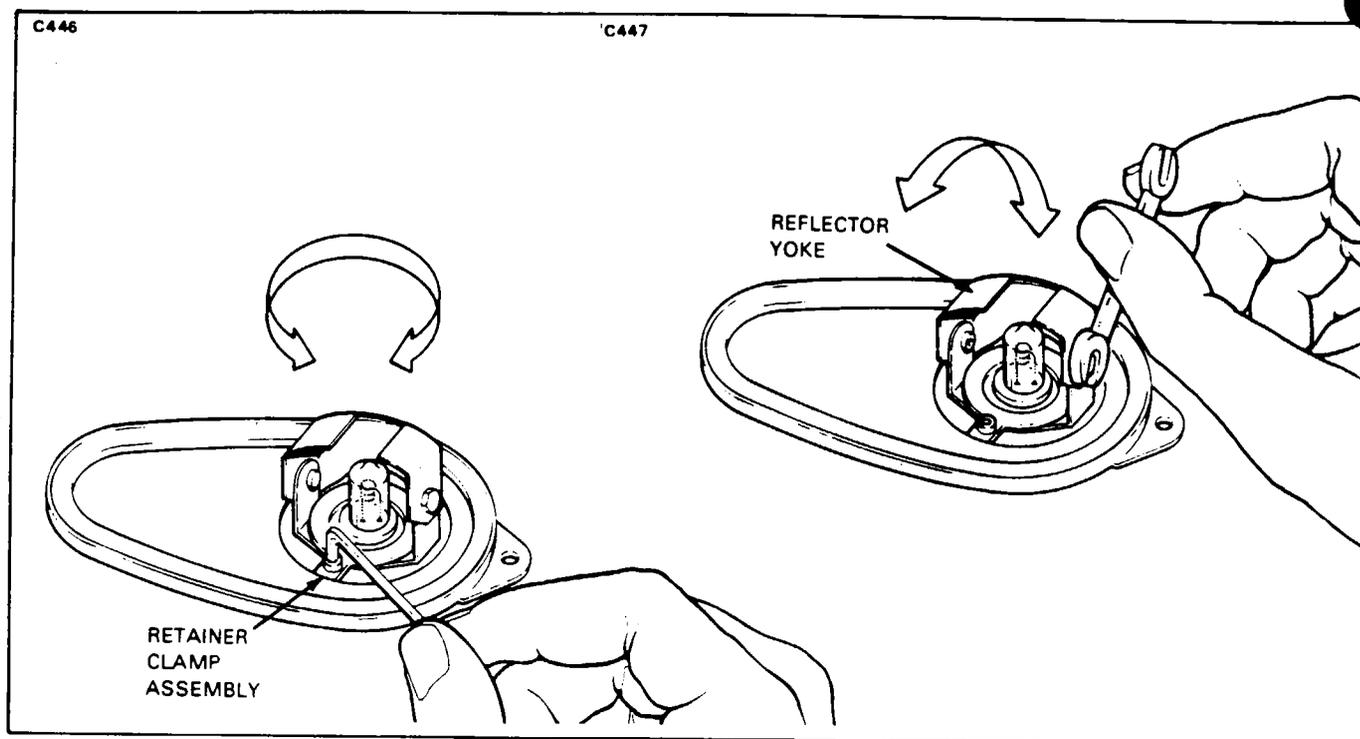

Figure 33-1. Logo Light Assembly Adjustments
2. To install the landing light assembly, position the assembly against the strut housing with the bottom of the mounting bracket 5.63 inches up from the bottom of the housing. (Refer to Figure 33-1.) Align the bracket longitudinally and secure with clamps. The light beam angle may be adjusted by the adjustment screws at the side of the bracket and tilting as desired.
**LOGO LIGHTS ADJUSTMENT.** (Refer to Figure 33-1.)